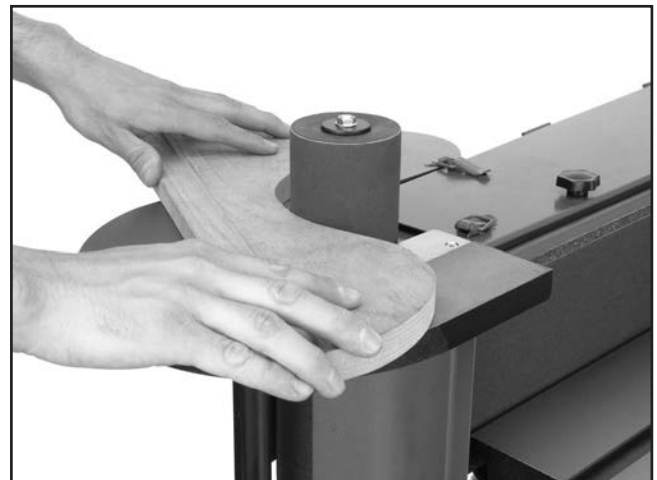

Figure 23. Spindle sanding.
3. While securely holding the workpiece, lightly press it against the spindle and maintain consistent pressure against table, as shown in **Figure 23**. Use extra caution when sanding end-grain.